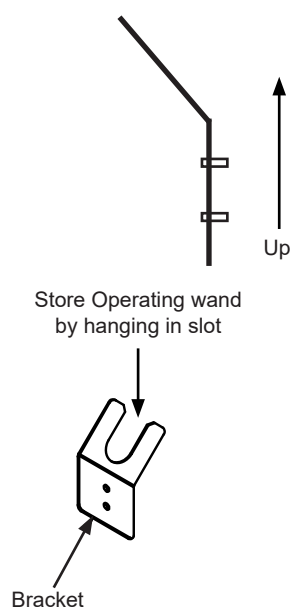

Figure 17
- Mount Stop-Tite operating wand bracket (Figure 17) on the interior wall near the vehicle restraint (or as close to the control box as possible, if equipped). Mounting hardware supplied by others.